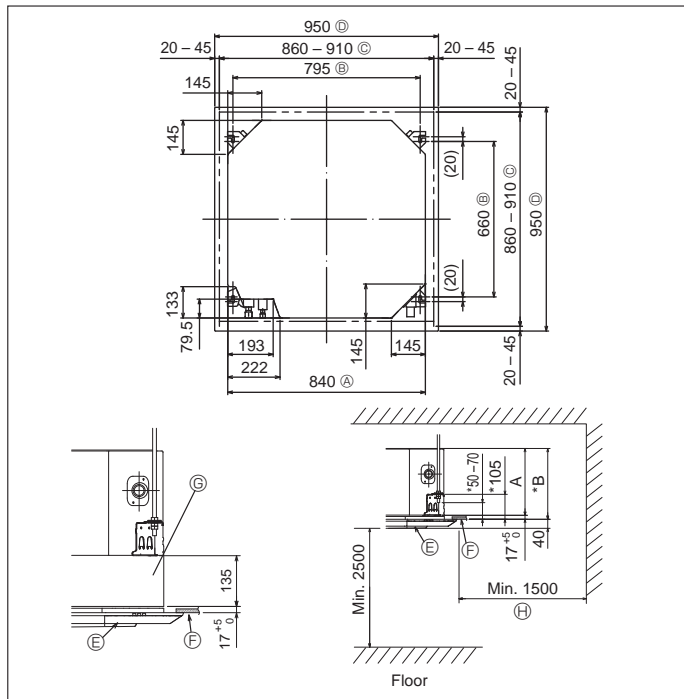

Fig. 2-2
### 2.2. Ceiling openings and suspension bolt installation locations (Fig. 2-2)
- The dimensions of ceiling opening can be regulated within the range shown in Fig. 2-2; so center the main unit against the opening of ceiling, ensuring that the respective opposite sides on all sides of the clearance between them becomes identical.